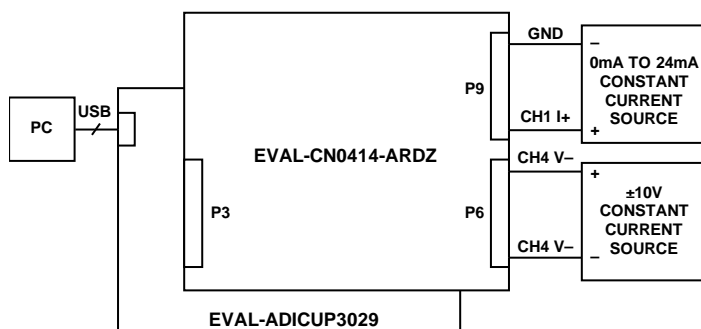

Figure 14. Analog Input Setup Example
3. Connect a signal source. Precision voltage and current sources can be used as input to the analog front end to evaluate system performances. In Figure 14, a constant current source is connected on Channel 1 current input and a voltage source is connected on Channel 4 voltage inputs to measure a differential voltage.